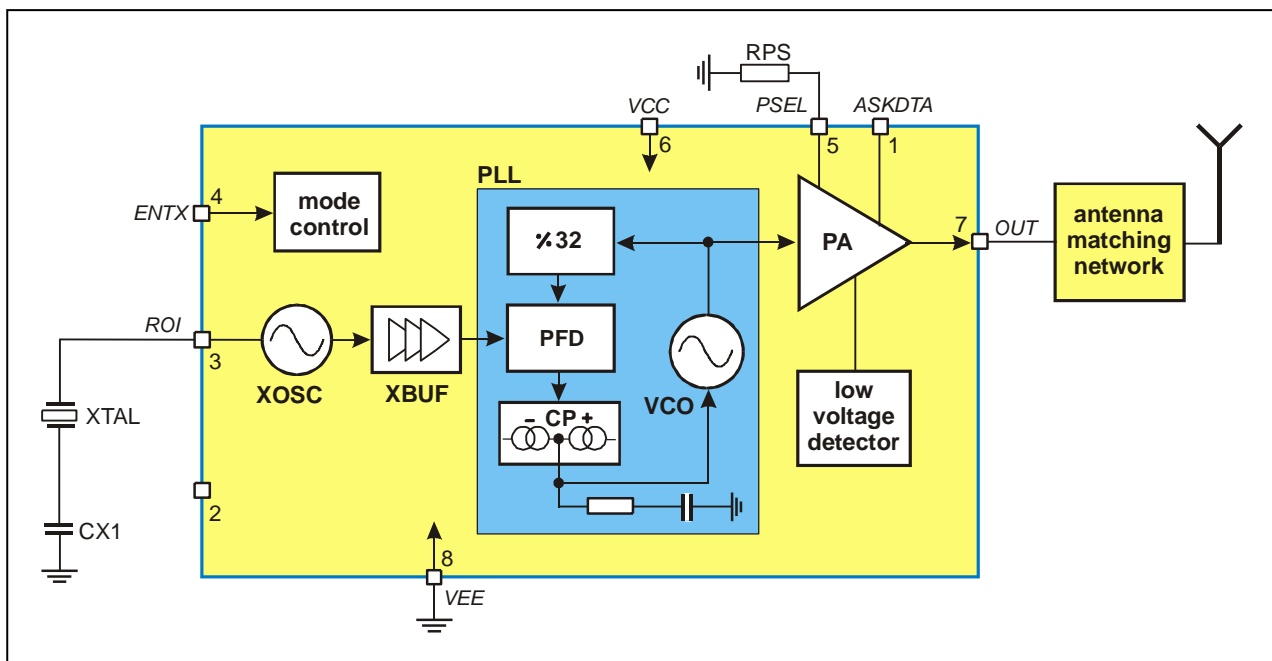

Fig. 1: Block diagram with external components
As depicted in Fig.1, the TH72012 transmitter consists of a fully integrated voltage-controlled oscillator (VCO), a divide-by-32 divider (div32), a phase-frequency detector (PFD) and a charge pump (CP). An internal loop filter determines the dynamic behavior of the PLL and suppresses reference spurious signals. A Colpitts crystal oscillator (XOSC) is used as the reference oscillator of a phase-locked loop (PLL) synthesizer. The VCO's output signal feeds the power amplifier (PA). The RF signal power  $P_{out}$  can be adjusted in four steps from  $P_{out} = -12$  dBm to +10 dBm, either by changing the value of resistor RPS or by varying the voltage  $V_{PS}$  at pin PSEL. The open-collector output (OUT) can be used either to directly drive a loop antenna or to be matched to a 50ohm load. Bandgap biasing ensures stable operation of the IC at a power supply range of 1.95 V to 5.5 V.